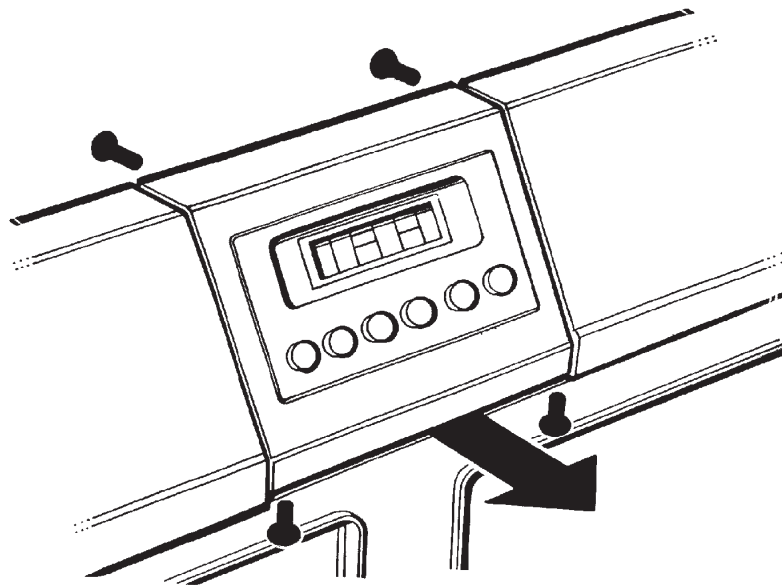

Fig. 26
3. Remove fixing screws (4). Two top rear and two lower front of timer housing.
4. The timer assembly can now be lifted upwards sufficiently to disconnect electric cables at rear of timer. (See Fig. 26).
5. Slacken timer fixing screw sufficiently to allow timer securing strip to slide out of fascia panel. (See Fig. 26).